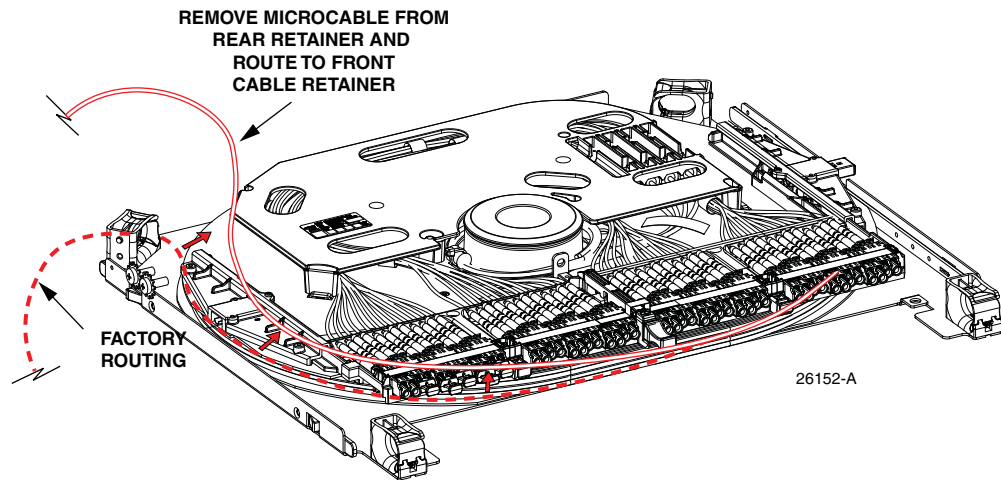

Figure 23. Removing Microcable From Rear Cable Retainer
- c. Remove the microcable from the cable retainer at the rear side of the spool tray and route the cable to the front as shown in Figure 23.